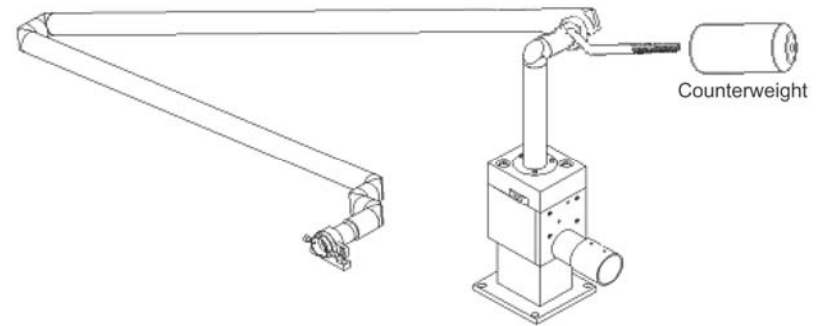

Figure 2. Light Arm Counterweight
2. Attach the counterweight to the Light Arm (see Figure 2). The clamp assembly for the counter weight is set in the correct orientation at the factory. Do not remove or change the position of the clamp assembly.